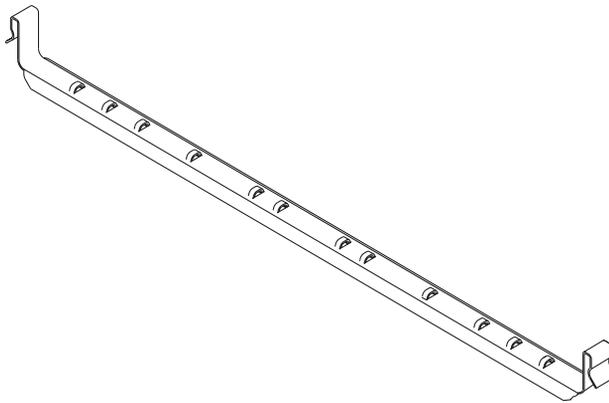
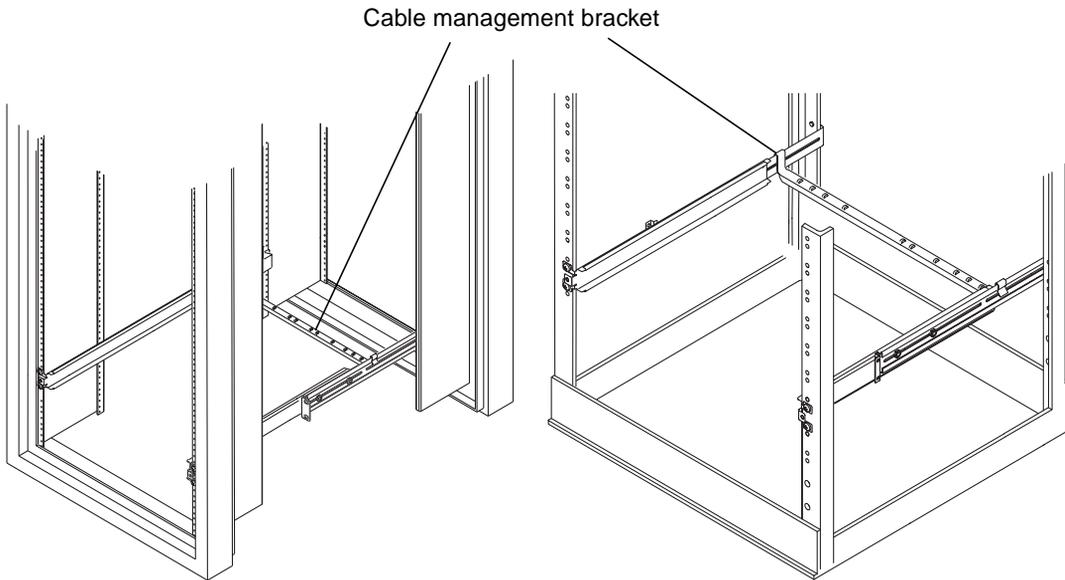

FIGURE 3-7 Cable Management Bracket
FIGURE 3-8 Cable Management Bracket Installed in Both Expansion Rack
- 12. Hook the cable management bracket over the slide mounts at the rear of the system.** See **FIGURE 3-7** and **FIGURE 3-8**.